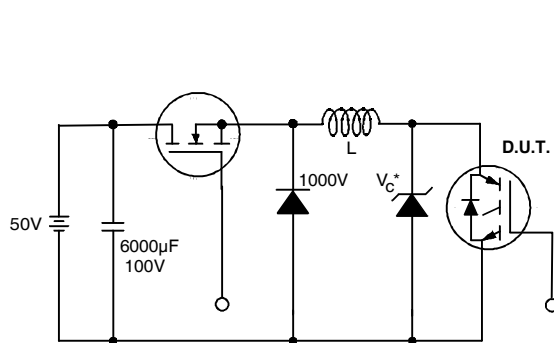

Figure 19. Clamped Inductive Load Test Circuit
- ② $V_{CC}=80\%(V_{CES})$, $V_{GE}=20V$, $L=10\mu H$, $R_G=23\Omega$ (figure 19)
- ③ Pulse width $\leq 80\mu s$; duty factor $\leq 0.1\%$.
- ④ Pulse width $5.0\mu s$, single shot.